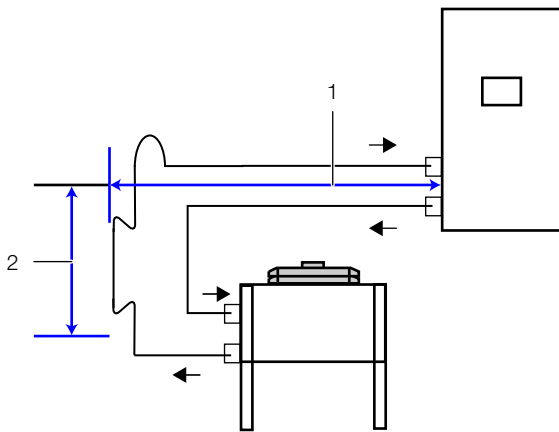
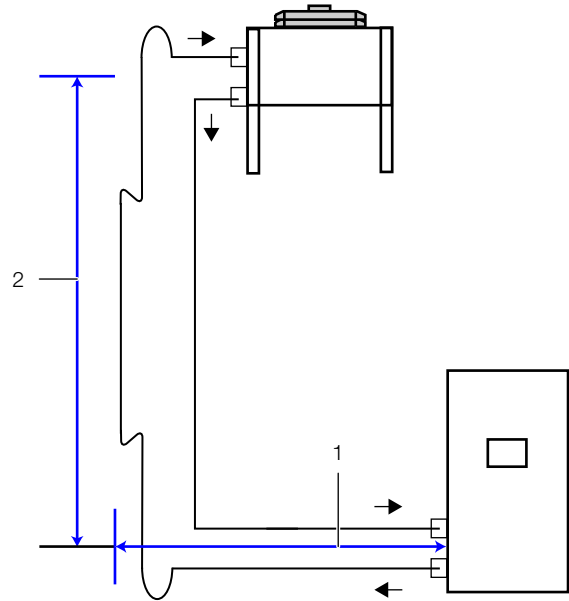

Fig. 12: Relative positioning condenser below the LCP DX
Fig. 13: Relative positioning above the LCP DX
Sum total of horizontal (fig. 12, item 1) and vertical spacing (fig. 12, item 2 or fig. 13, item 2) between the LCP DX and the condenser	Max. 45 m equivalent length
Condenser above LCP DX (fig. 12, item 2)	max. 20 m
Condenser below LCP DX (fig. 12, item 2)	max. 3 m